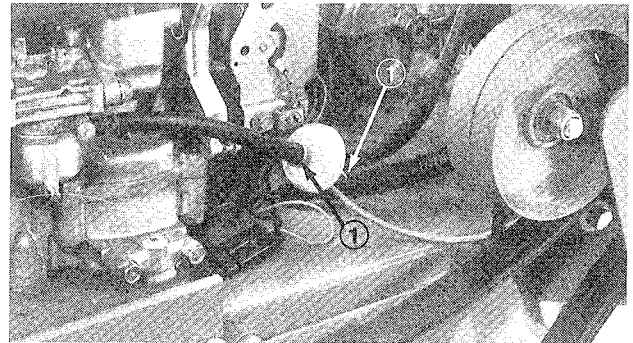

**Figure 16**
- Turn engine off and place drain pan under frame, below drain plug (Fig. 16). Remove drain plug and allow all oil to flow into drain pan. Install drain plug after oil stops flowing.